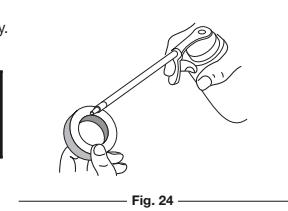

Fig. 24
- Apply enough clean SAE 30 oil to lightly coat the filter (Fig. 24).